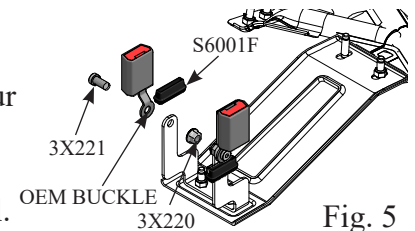

Fig. 5
- B. Using the Supplied 1/2-13 x 1" (3X221) Low Head Bolts and 1/2-13 Flange Nuts (3X220) Attach the OEM seat belt buckles to the Seat Belt Extension Bracket (See Fig. 5)